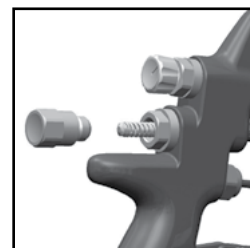

Fig. 9
3. Unscrew blanking cap and remove the needle spring and pad. (See figs 9 & 10)
7. Screw on blanking cap. (See fig 9)